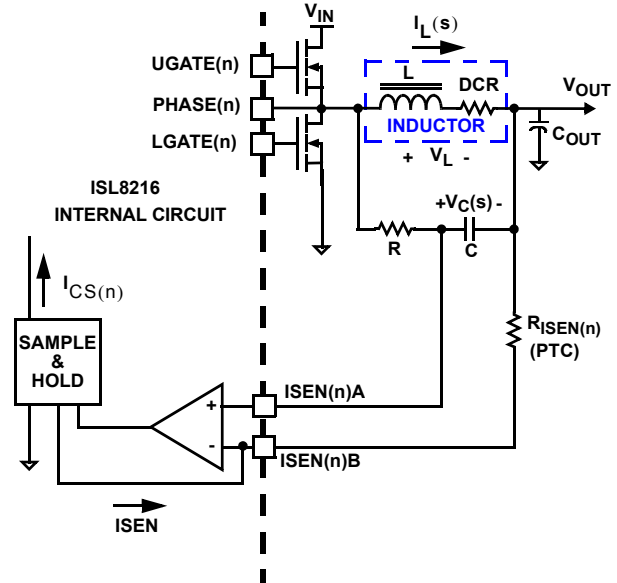

FIGURE 20. DCR SENSING CONFIGURATION
The ISL8126 supports inductor DCR sensing, MOSFET’s rDS(ON) sensing, or resistive sensing techniques. The circuits shown in Figures 20, 21, and 22 represent one channel of the controller. This circuitry is identical for both channels.
An inductor’s winding is characteristic of a distributed resistance as measured by the DCR (Direct Current Resistance) parameter. Consider the inductor DCR as a separate lumped quantity, as shown in Figure 20. The inductor current, IL; will also pass through the DCR. Equation 3 shows the s-domain equivalent voltage across the inductor VL.
A simple R-C network across the inductor extracts the DCR voltage, as shown in Figure 20. The voltage on the capacitor VC, can be shown to be proportional to the inductor current IL, see Equation 4.